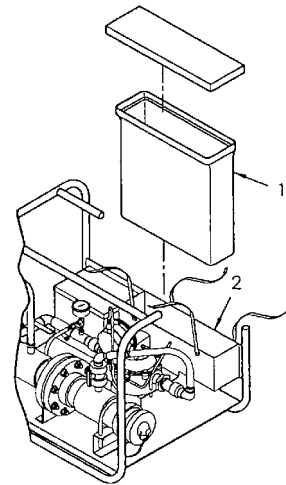

Figure 4-8. Reservoir Tank Assembly
- (1) Clean replacement reservoir (1, Figure 4-8).
- (2) Slide reservoir into frame assembly bracket (2).
- (3) Install foot valve and suction tubing (refer to para 3.5).